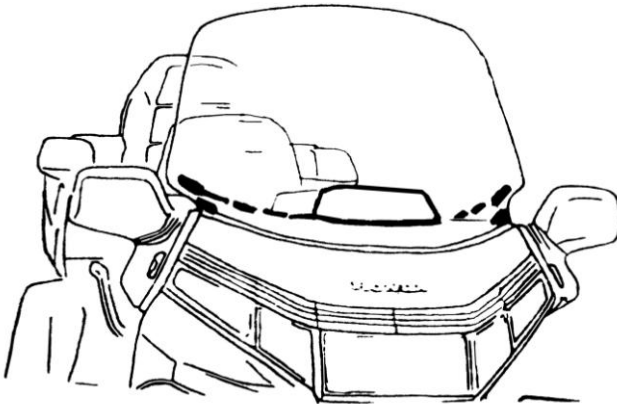

Figure 1
2. Draw a line across the windshield from the bottom of the top windshield adjustment lines. Figure 1.
4. Drill the four (4) corners. Using a sharp power saber saw, cut out the pattern. Put masking tape on the foot of the saw or around the area to be cut to prevent scratching.
5. Remove the windshield and install the vent. The two (2) pieces will snap together in the windshield and will be held firm by the locking screws.